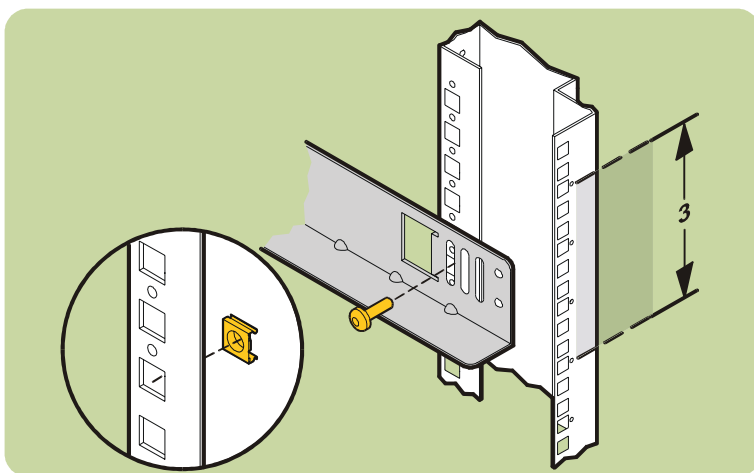

Fig. 35. Attaching rails to columns in Compaq 9000
9. Insert a 5/16-18 sheet metal nut in each marked hole on the columns (see Fig. 35). Use a flat-blade screwdriver to assist in installing the nuts.